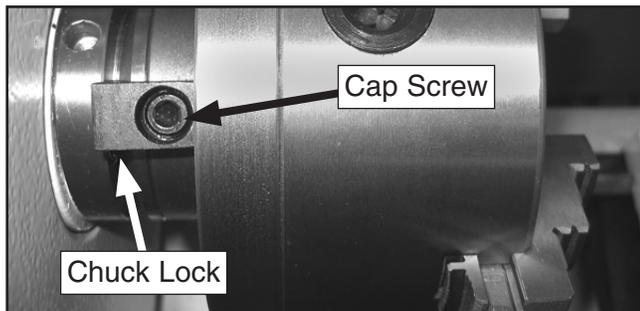

Figure 27. Location of chuck lock and cap screws.
3. Remove the cap screws and chuck locks (see **Figure 27**).